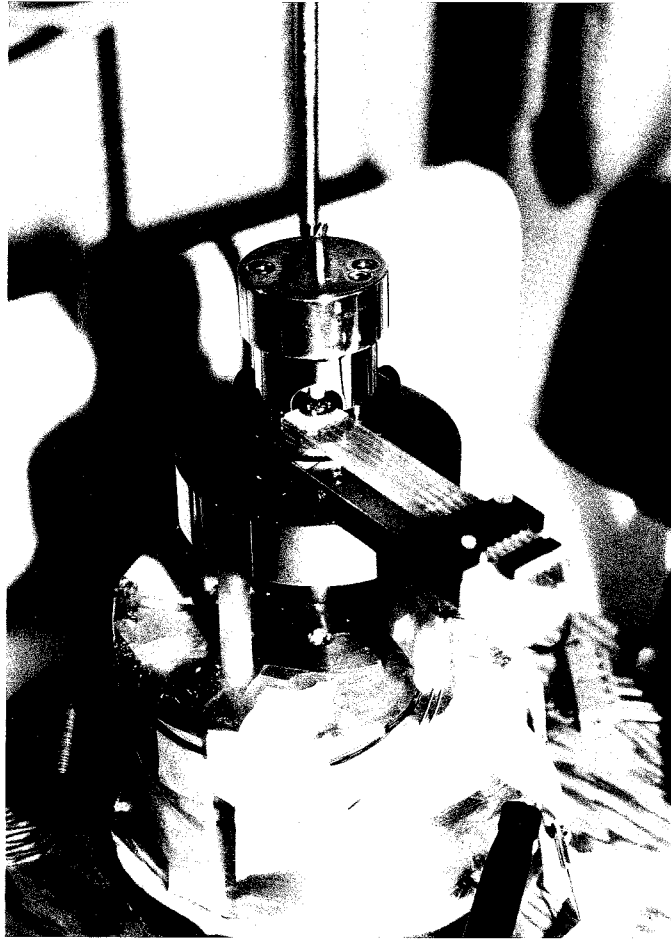

FIGURE 3
- Figure 3:** Graphite film mounted on cold pad of MMR refrigerator and installed under the STM probe.